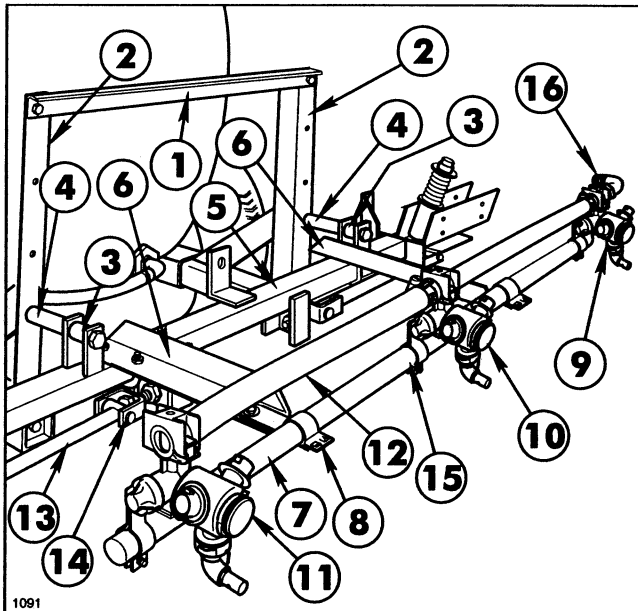

FIG. 1
1. Loosely attach the Double Barb Turret Body with the Turret Body Clamp in the approximate center of the Center Boom Pipe. For the most uniform spray coverage, position all Nozzles level as shown in Fig. 1.
2. Loosely attach a Single Barb Turret Body with a Turret Body Clamp to LH end of the Center Boom Pipe. Loosely attach the Threaded Barb Turret Body with a Turret Body Clamp to RH end of the Center Boom Pipe. See FIG. 1.
3. Place (2) hose clamps on the (2) 3/4" x 19" jumper Hoses and connect the two "end" Turret Bodies to the Double Barb Turret Body. Space Nozzles 20" apart and tighten fasteners securely.
4. Apply Teflon Tape and install the 90° 3/4" Hose Barb on the Threaded Barb Turret Body. See FIG. 1.